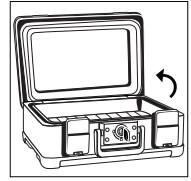

Figure 4
4. Chest is now unlocked and you may lift the lid (Figure 4).